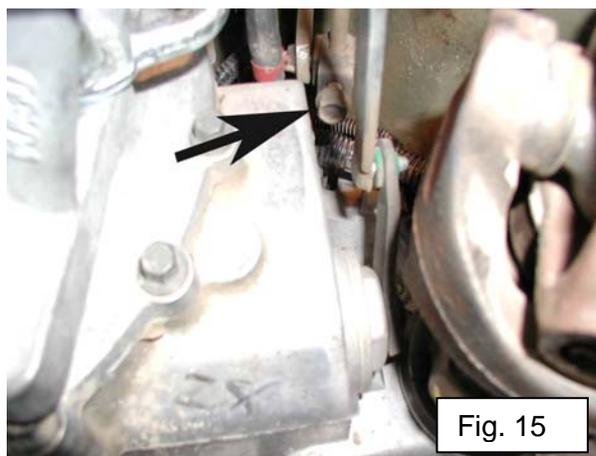

Fig. 15
Step 15: Adjust T-case linkage. Even though the t-case linkage relay rod position has been corrected for the TT installation, you will still need to re-adjust the linkage for proper t-case shifting. Begin by loosening the ½”-headed lock screw on the upper link (the one attached to the lever coming from the handle inside the Jeep – see **figure 15**) – make sure that it slides easily on the rod. Next, manually shift the t-case into 4-Low by pushing the t-case-mounted lever all the way to the back (you may gently confirm that it is engaged by starting and running the Jeep a few feet – but no driving! Make sure the in-cab lever is in the 4-Low position, but has some clearance to the back of the plastic bezel, then re-tighten the lock screw. You can confirm proper shifting after the install is complete and repeat this procedure if necessary.